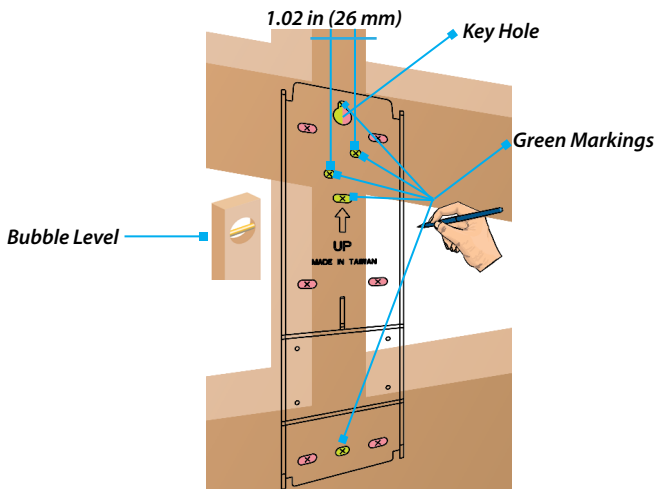

Figure 2
For stud wall installations, consider the 1.02 in (26 mm) between holes indicated in Figure 2. If the stud is too narrow, the edges of the stud may split and won't support the weight.
3. Use the **Pencil** to perforate the **Green Markings** on the **Mounting Template** and mark the locations for drilling. The **X** is the center of the hole. (Figure 2)